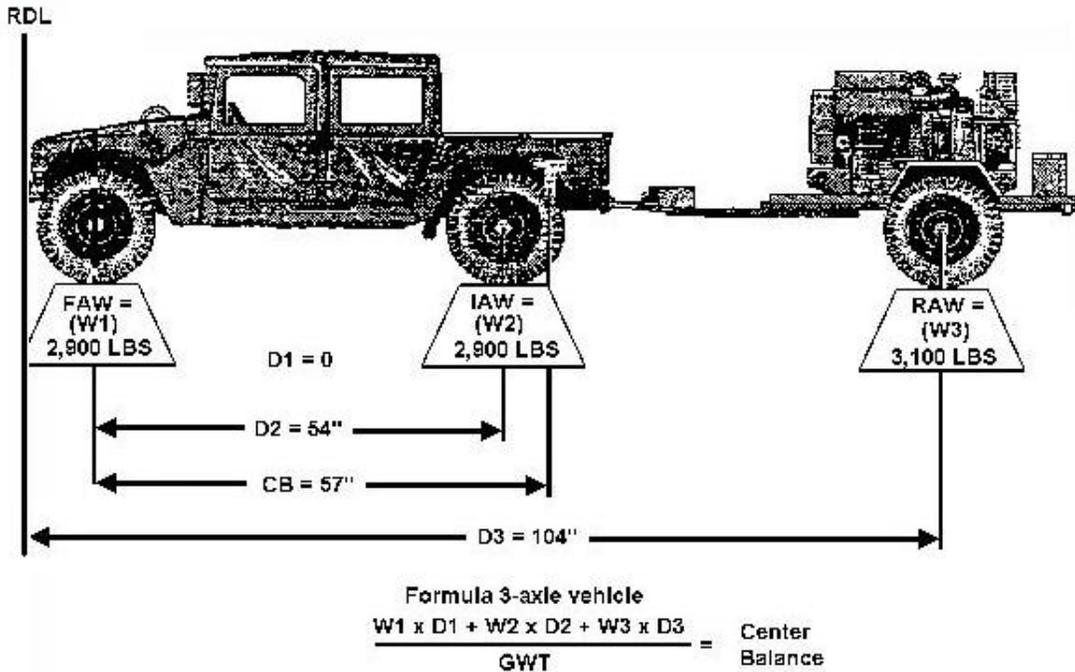

Figure 3-120
- d. Write the letters "CB" on the vertical portion of the T-shape and annotate the CB in inches (example: 57 inches) (see Figure 3-120).